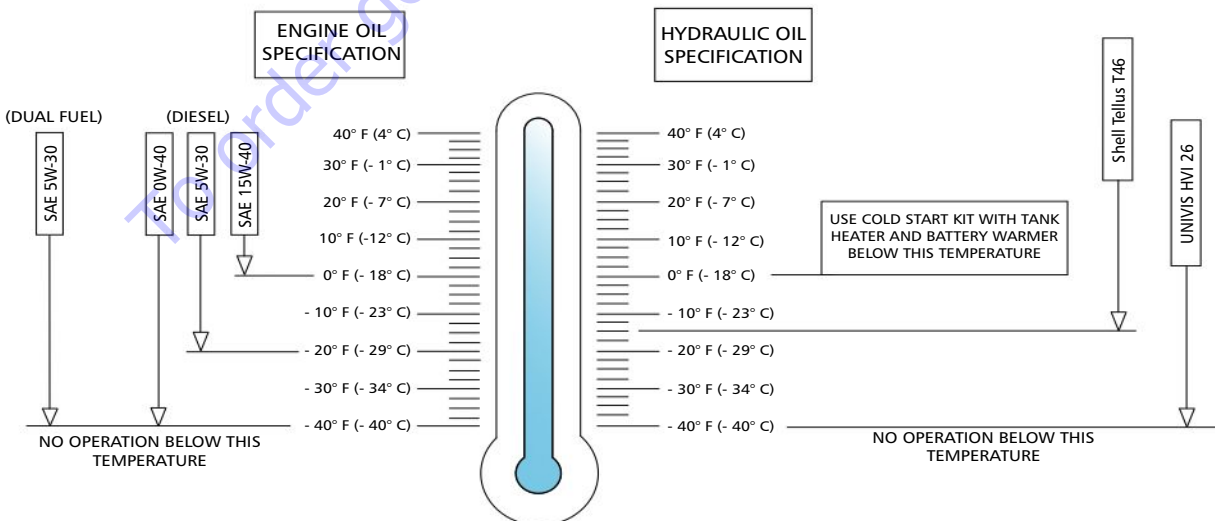

Figure 12 Cold weather operation chart
- Use the correct hydraulic and engine oils (refer to Figure 12).
2. Find the **heater plug** ❶ in the engine compartment.
Refer to the cold weather operation chart (Figure 12) to help when you operate the MEWP in cold weather conditions.